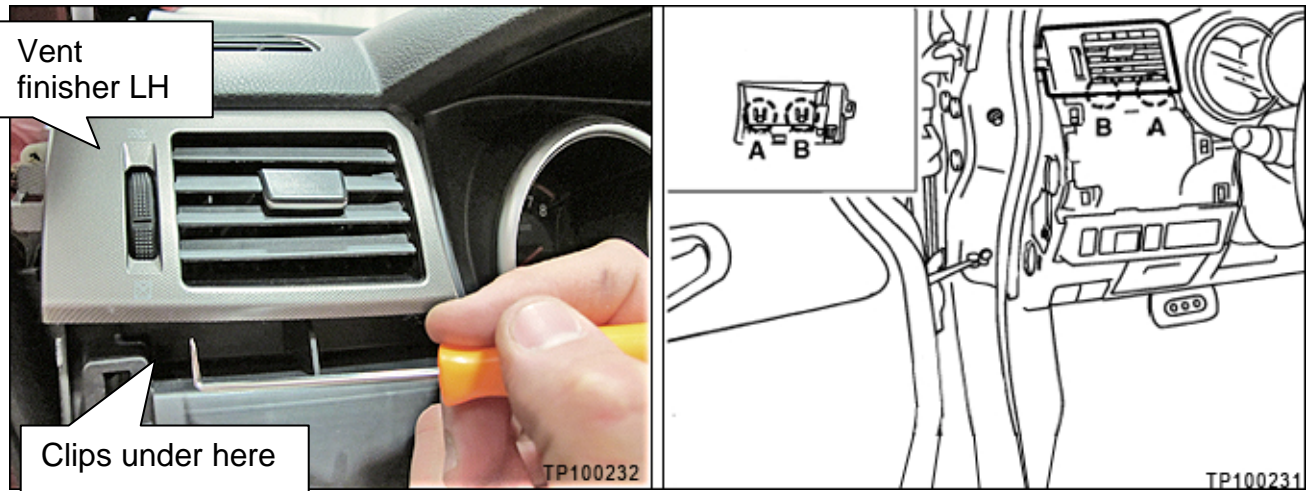

Figure 6
- a. Use a hook tool to release the lower clips (see Figure 6).